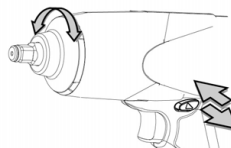

Fig. 5
4. For reversing the machine, (See Fig. 5) use the forward / reverse rod on the drive unit. The directions of the rotation are also shown on the face of the bar.